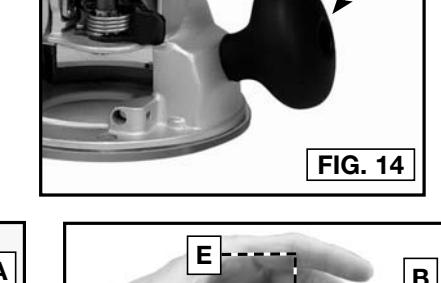

FIG. 14
1. Use a 5/16" hex wrench to loosen the screw (B) in the handle (A) Fig. 14. Remove the handle from the router base. Store the handle and screw for possible later use.